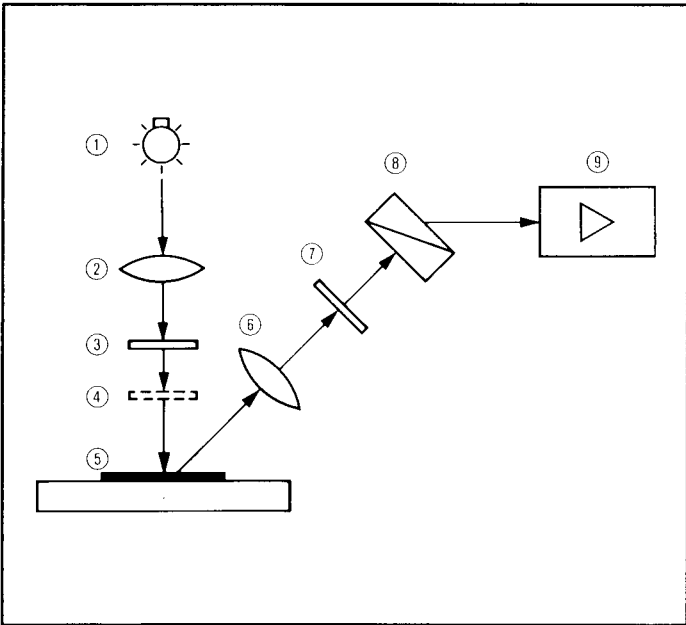

Figure 1
From a stabilized light source (1), (see Figure 1) the light passes through a lens (2), where it is focussed to fall on the printed surface. Depending on the film thickness and the pigmentation of the ink (5) involved, part of the light is absorbed. The non-absorbed content of the light is reflected by the surface of the printing stock. A lens system (6) now captures those light rays which are returning from the ink film at an angle of 45 degrees to the measuring ray, and passes them to the receiver (photo diode) (8).